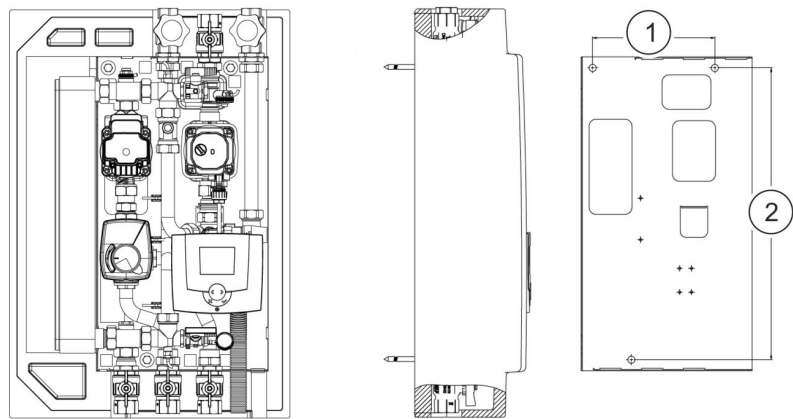

Fig. 20: Gauge for holes
4. ➤ Mark the drill holes (Fig. 20/1 + 2) on the wall.